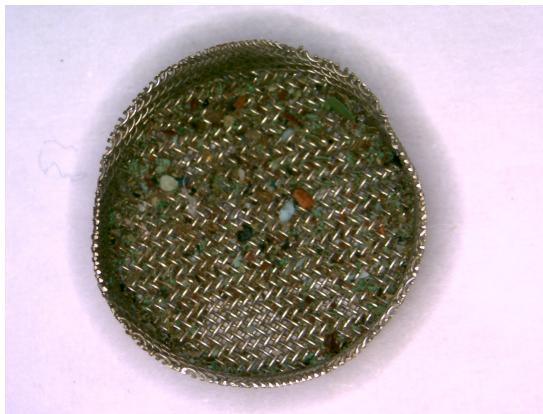

Figure 44: Picture of the filter before cleaning.
- Clean filter with water and by blowing pressurized air against the flow direction (available e.g. in the workshop). Figures 44 and 45 show the filter before and after cleaning.